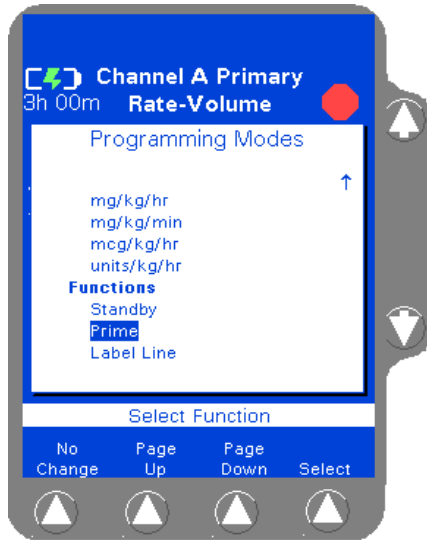

Figure 4-21 Programming Modes Menu
3. From the Programming screen, press the **Change Mode** soft key. The Programming Modes menu is displayed (Figure 4-21).